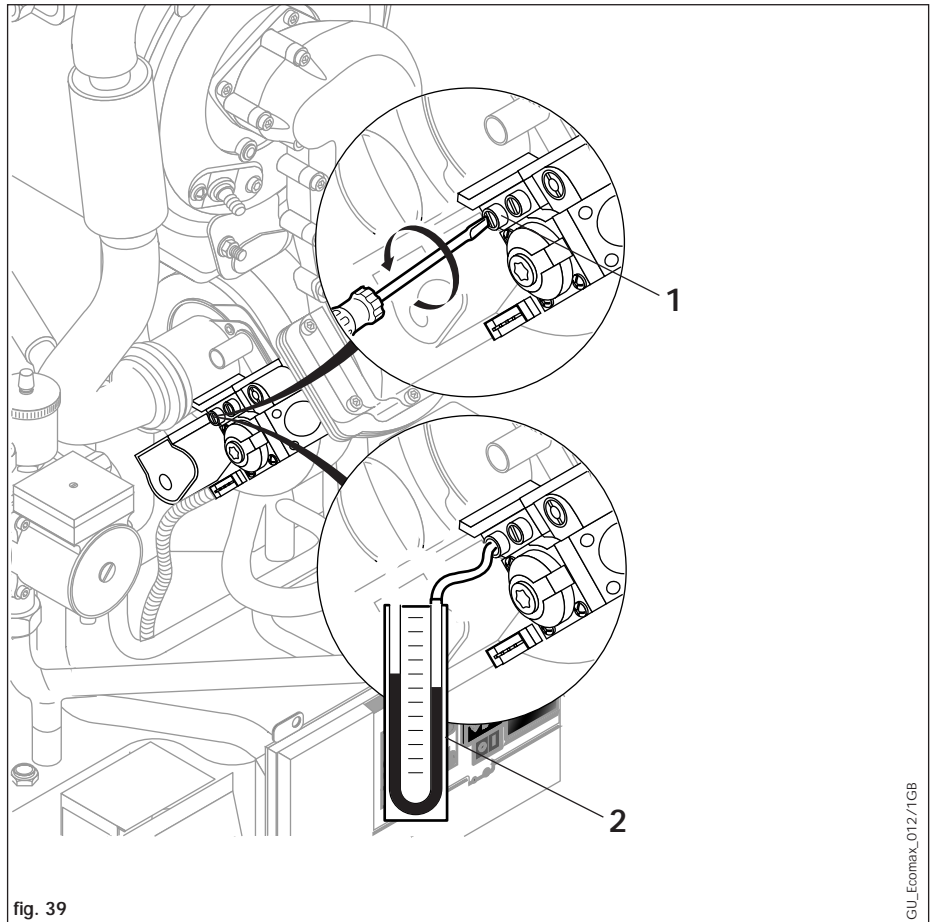

fig. 39
5.8 GAS INLET WORKING PRESSURE (FIG. 39)
- Slacken the sealing screw (1, fig. 39) and attach a U gauge (2, fig. 39) to the inlet test point on the gas valve.